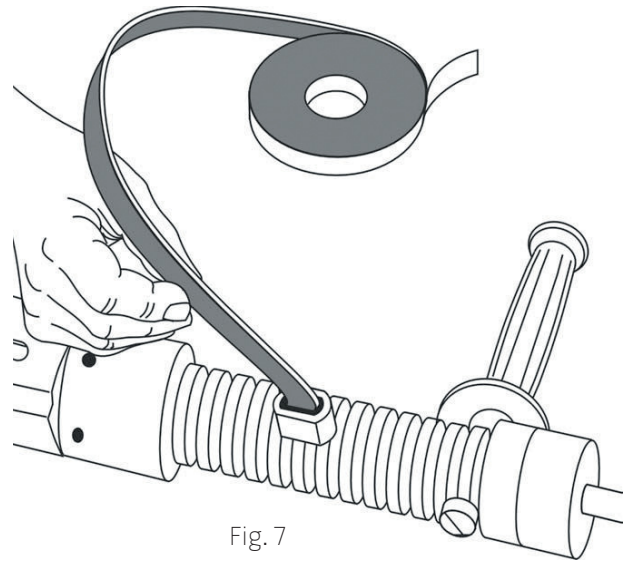

Fig. 7
- ⇒ Remove the blue protective foil, if applicable, and extrude (warm up) the T2 cleaning rubber approx 1 m until an even discharge emerges. (figure 7)